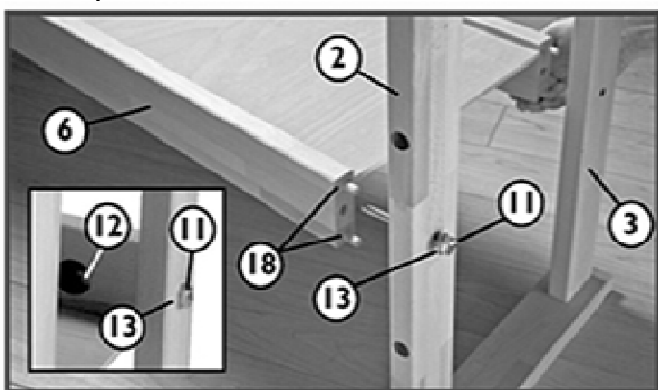

Fig. 3
Use two Dowels (18), an M-12x100 Hex Bolt (11) a Washer (13) and an M-12 nut (12) to attach each Middle Stretcher (6) to the leg assembly (fig.3) The middle Stretcher assembly can be mounted with the Centre Shelf (7) on the top or bottom. Make sure the bench dog holes in the legs are all facing forward.